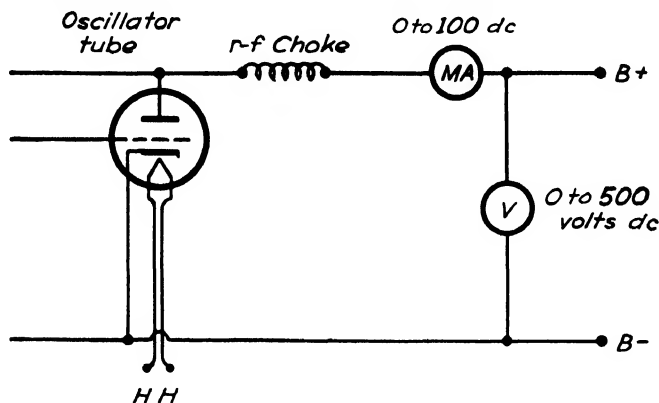

FIG. 411. Connect a voltmeter and a milliammeter as shown here to measure the power input to the oscillator.
Step 2. Measure the plate voltage with a high-resistance voltmeter (see Fig. 411 for its connection in the circuit).
2. When connected as shown in Fig. 411, does the milliammeter measure the current taken by the voltmeter?